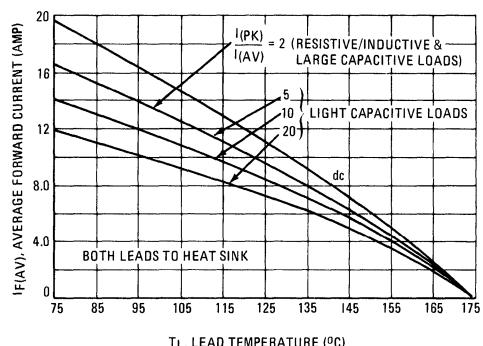

FIGURE 10 – PRINTED CIRCUIT BOARD MOUNTING,
neglecting reverse power dissipation (from Figures 10 or 11)
Step 6: Find  $T_A = T_1$  from Figure 10. Read  $T_A = 115^\circ\text{C}$ .